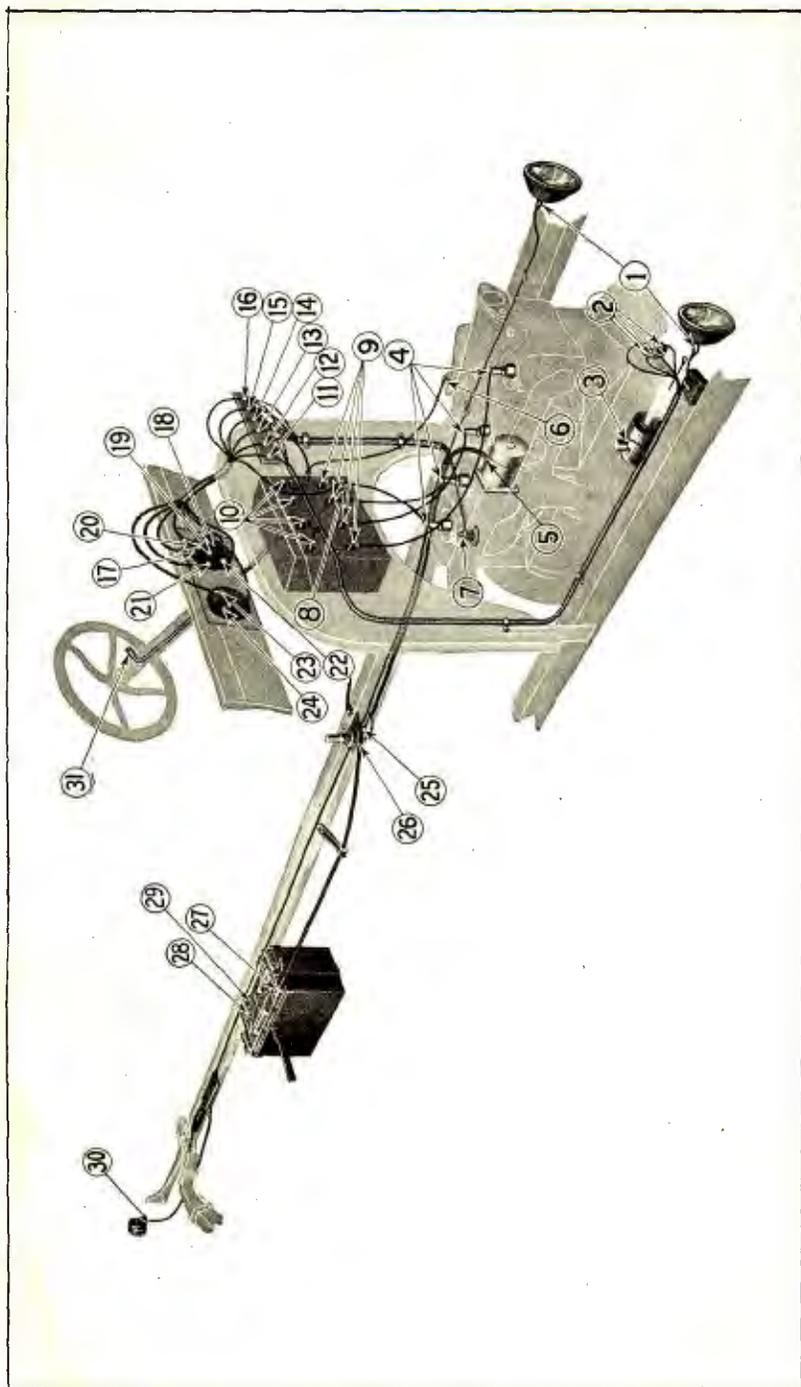

Fig. 498
- 988 If no spark occurs when the starting switch terminals are shorted as described in Par. 983, the trouble is probably due to loose or dirty connections. Examine connections at starting motor terminal, point 5 (Fig. 498), starting switch terminals, points 25 and 26, positive and negative posts on battery, points 27 and 28 and battery ground connection on frame, point 29. If connections are clean and tight, the trouble lies in the starting motor, and it will be necessary to remove the starting motor and check for shorts and grounds or shaft bushing binding on armature shaft as described in Chapter XXXVII.
- 990 If the trouble indicates itself as lying in the ignition system, remove and inspect commutator case and spring as described in Par. 1003. If the commutator is O. K., examine magneto and battery wire terminals on terminal block, points 12 and 13 (Fig. 498); ignition switch wire terminal at point 8, commutator terminals on coil box, point 10, also the two soldered connections on terminal to bus bar
- 991** If the car is not equipped with a starter and fails to start when turned over rapidly with the hand crank and with the switch key turned to point marked "MAG," check the spark plugs as described in Par. 989 to determine whether the trouble lies in the ignition or fuel system. If the trouble indicates itself as lying in the ignition system, inspect the magneto contact post. While someone cranks the car, short the magneto contact post, point 7 (Fig. 498) by placing the ends of a pair of pliers, or a screw driver on the contact post and transmission cover and moving the end of the pliers or screw driver back and forth on the cover to make a good contact. If a good live spark occurs the magneto is O. K. (See Par. 999). If no spark or a very weak spark occurs, remove magneto post and examine contact spring to see that it is not weak, or broken, or that there is no dirt or foreign matter between the contact and contact post spring. After cleaning the contact point and contact post, replace magneto terminal and again short the terminal to cover. If no spark, or a very weak spark occurs the trouble is due either to excessive end play in the crankshaft, weak magnets or a ground or short in the magneto coil assembly.
- 993** If there is no appreciable end play in the crankshaft, the strength of the magneto should next be checked. An easy way to prove a weak magneto on a car not equipped with a battery is to run one wire from a six volt storage battery or three or four dry cells to the left hand terminal connection on the terminal block when facing front of dash (See point 11 Fig. 498), and the other wire to some metal part of the engine. Turn the switch key to the right instead of the left and try starting the engine. On cars equipped with starters simply turn switch key to point marked "Bat".
- 999** If a spark occurs after shorting magneto contact post, as described in Par. 991, remove the commutator and inspect commutator case and spring as described in Par. 1003. If commutator is O. K., examine all connections on coil box, terminal block, and back of switch as outlined in Par. 990, and see that they are clean and tight. If the trouble is not due to a loose connection at these points, place the ends of a pair of pliers on the magneto and coil terminals on back of switch, points 19 and 20 (Fig. 498), while some one cranks the car. If the car starts, the trouble lies in the ignition switch and a new switch should be installed.